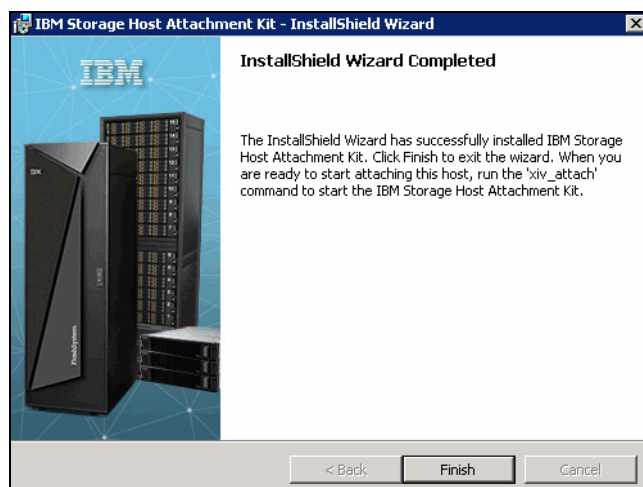

Figure 3-4 IBM Storage Host Attachment Kit installation wizard completed
2. When the installation completes, click **Finish** (see Figure 3-4). The IBM Storage Host Attachment Kit is added to the list of installed Windows programs.